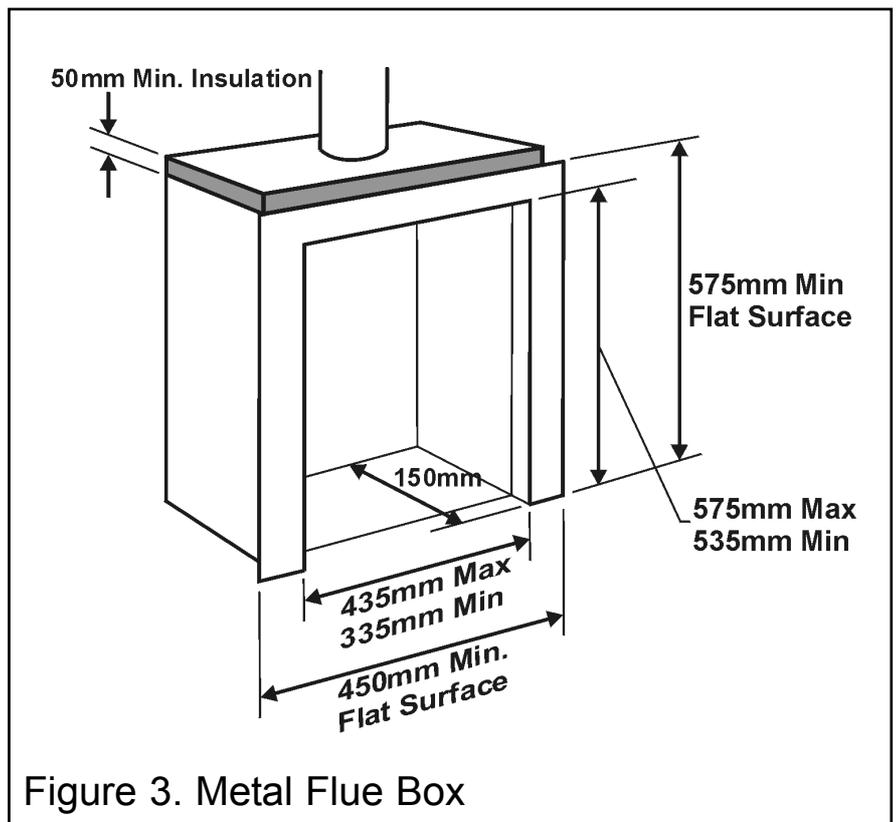

Figure 3. Metal Flue Box
3.9.3 A metal flue box conforming to BS715 with a minimum internal depth of 150mm. Incombustible mineral wool insulation of not less than 50mm thickness must be applied to the top surface of the firebox and it must stand on a non-combustible hearth. See figure 3.